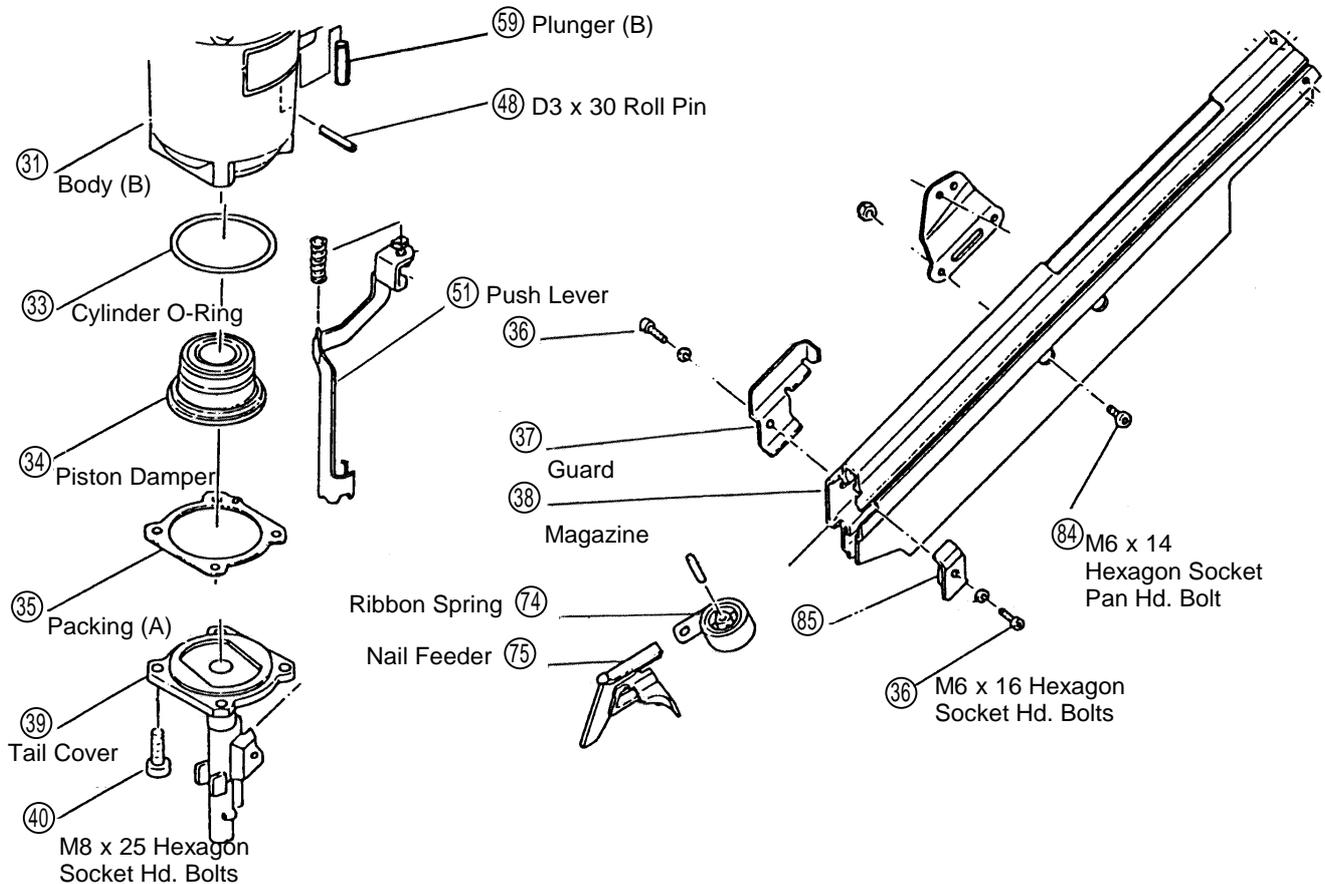
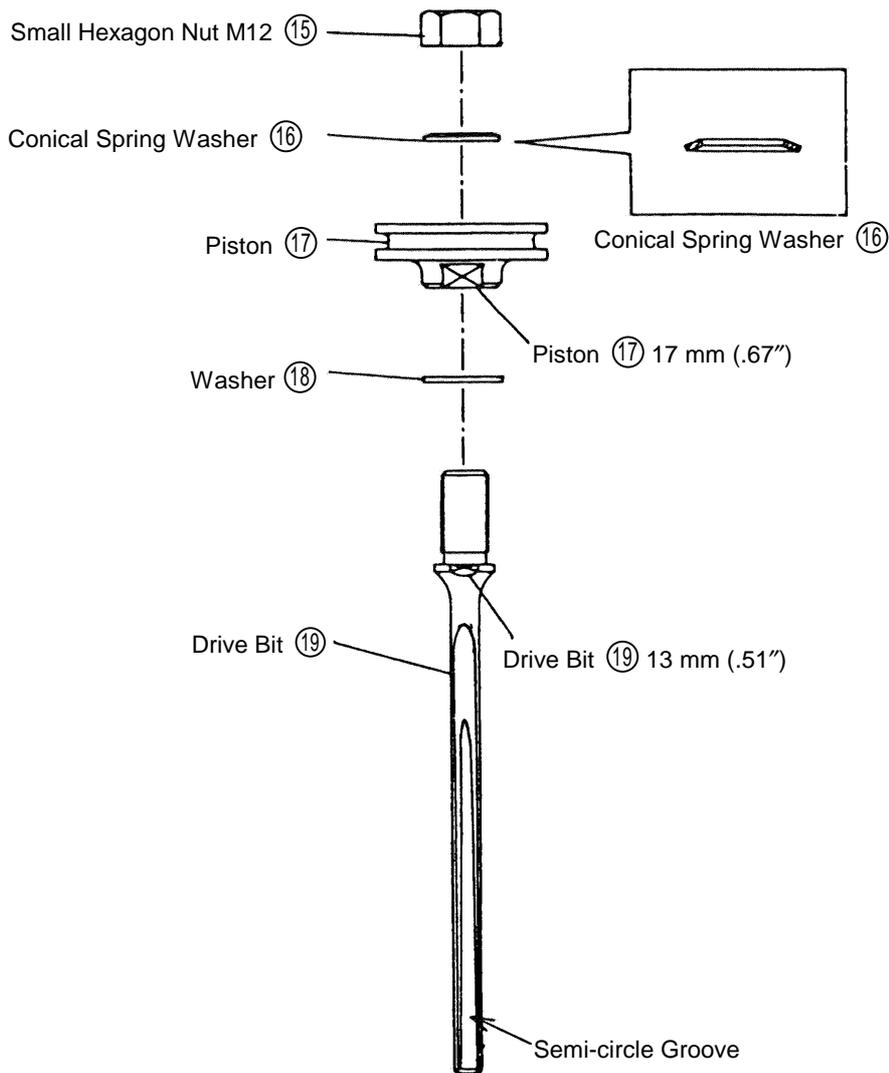
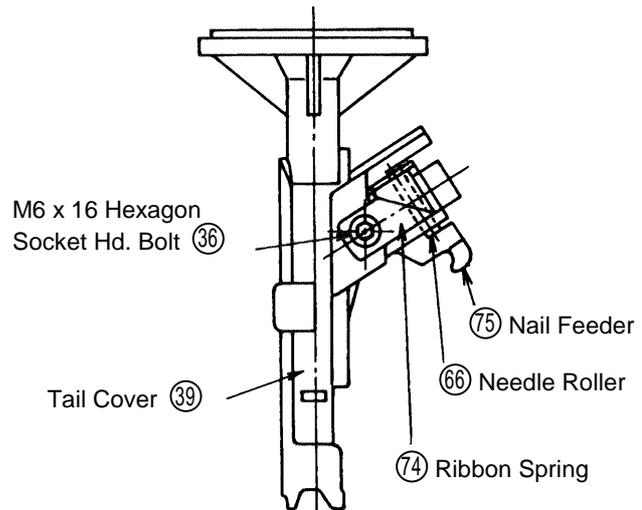

Fig. 7 Disassembly and Reassembly of the Piston Damper, Packing (A), etc.
Fig. 12
Fig. 16 Mounting of the Nail Feeder
- Ensure that the Piston Ass'y ①④ is positioned so its semicircular groove faces toward the Magazine side (see Fig. 12 below).
- Plunger (B) ⑤⑨ may drop out during disassembly. Ensure it is properly assembled.
- Assemble the Body (B) ③①, Tail Cover ③⑨, and Magazine ③⑧ in the following manner:
- I) With the Push Lever ⑤① properly mounted on the Tail Cover ③⑨ as illustrated in Fig. 7, assemble the Tail Cover ③⑨ to the Body (B) ③① with the four M8 x 25 Hexagon Socket Hd. Bolts ④①, and tighten them to rated torque (see Para. 1-4).
- II) Connect the Push Lever ⑤① to the Body (B) ③① with the D3 x 30 Roll Pin ④⑧.
- III) Temporarily attach the Ribbon Spring ⑦④ and Nail Feeder ⑦⑤ to the Tail Cover ③⑨ with the M6 x 16 Hexagon Socket Hd. Bolts ③⑥ (please note that this step is not necessary if the front-side M6 x 16 Hexagon Socket Hd. Bolt ③⑥ was only loosened and not fully removed during reassembly [refer to Fig. 16]), and assemble the Magazine ③⑧ (refer to Para. 1-3-(1)).
(a) Disassembly: (Refer to Fig. 12)
- As illustrated in Fig. 16, temporarily fix the Ribbon Spring (74), Needle Roller (66) and Nail Feeder (75) onto the Tail Cover (39) with the front-side M6 x 16 Hexagon Socket Hd. Bolt (36), and slide the Magazine (38) onto the Tail Cover (39). Then, secure the assembly by tightening the M6 x 16 Hexagon Socket Hd. Bolt (36) on the Guard (37) side and the two M6 x 14 Hexagon Socket Pan Hd. Bolts (84) to rated torque (see Para. 1-4.).